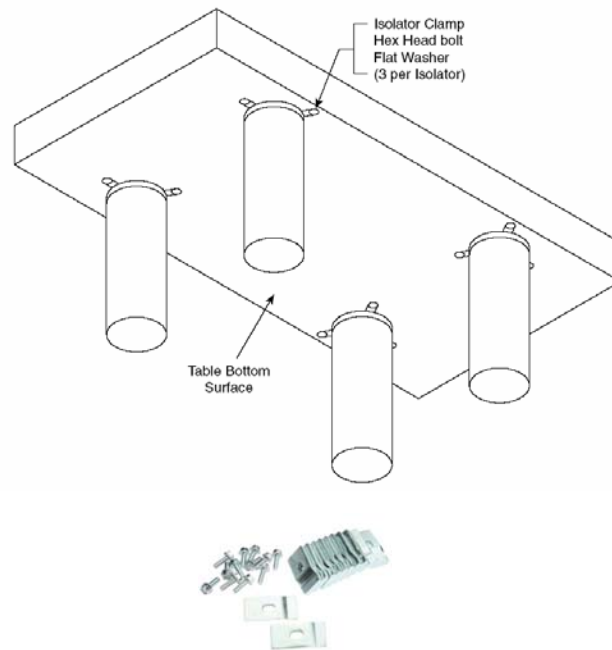

Figure 2 — Isolator Clamps and Mounting Holes
1. With the isolators located as described in Section 2.1.2, raise the table top and position it above the isolators. Be sure each isolator is centered within the tapped three-hole patterns on the lower surface of the table (Figure 2).
3. Install three isolator clamps in the corners where each isolator is located (Figure 2). Loosely secure the clamps with the bolts. Do not tighten the clamps at this time.